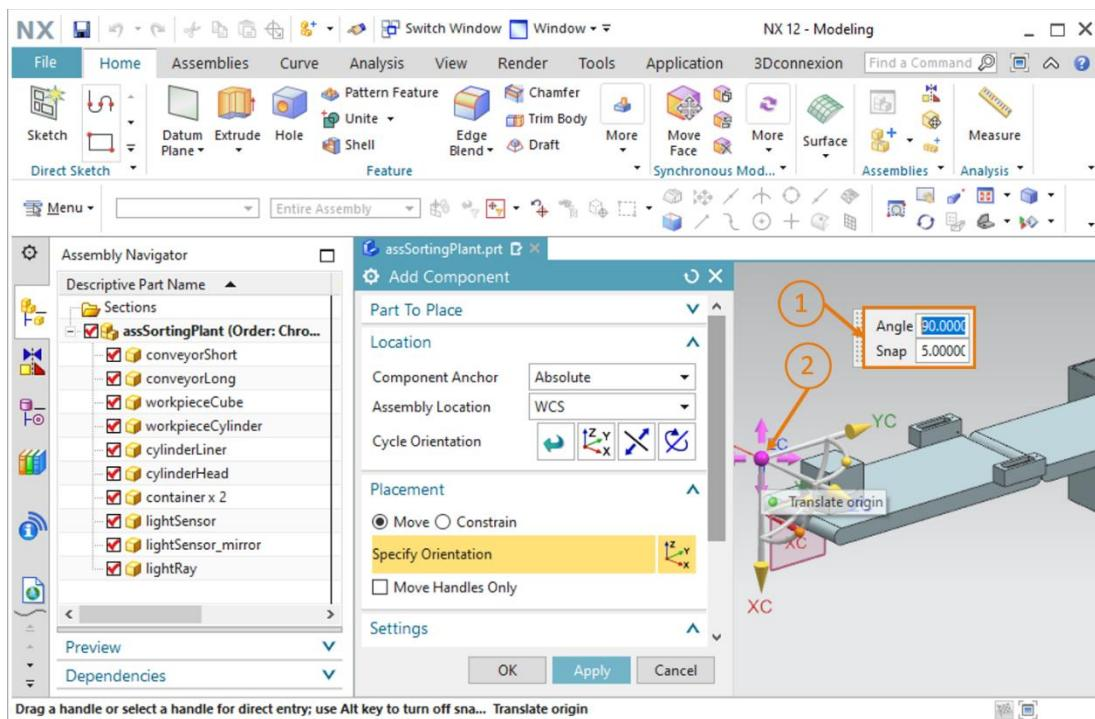

Figure 76: Adding the light beam for the light sensor – Specifying a rotation
- You must then bring the light beam to a horizontal position. For this, you specify an angle of **90°** (see Figure 76, step 1). Now click on the center point again in order to move the component within the world coordinate system (see Figure 76, step 2).